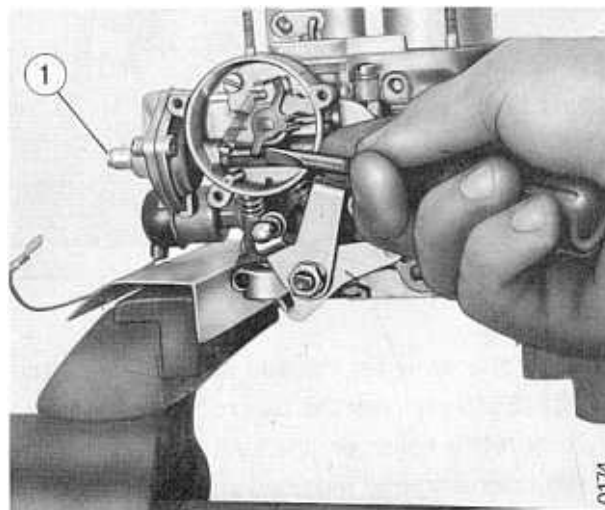

Fig. 16 4/11 - Checking the opening of the rich mixture control throttle when operated by the cut-off device
- With the carburettor in a lead-jawed vice and the rich mixture control on, use a screwdriver to operate the cut-off device and check that the gap 'D' between the top throttle and the primary choke is the right width. If not, adjust as necessary by means of screw (3) (see fig. 16 4/11), after loosening screw (1).